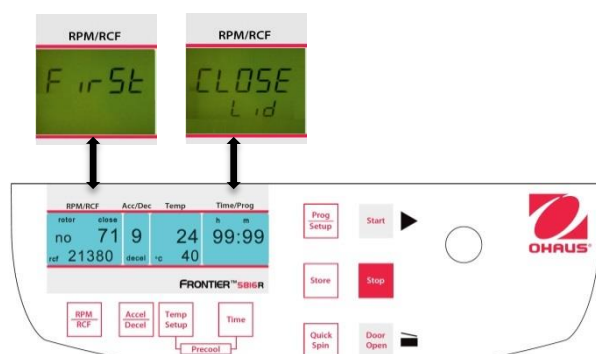
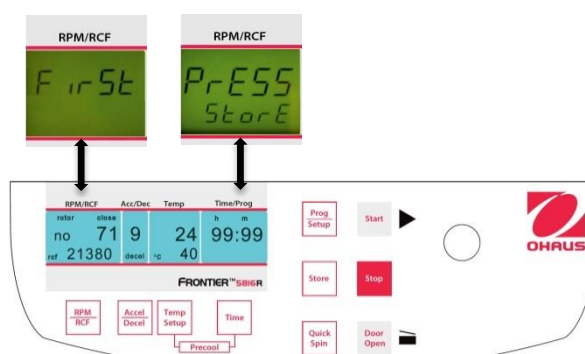

Figure. 23
Figure. 24
Close the lid of the centrifuge. Now proceed as described previously to set all important run parameters. If the lid isn't closed when storing the program, in the display **"RPM/RCF"** (A-1), the words **"FirSt"** and **"CLOSE Lid"** (See figure 23) flashes alternately. If you want to start the run without storing the program, in the display **"RPM/RCF"** (A-1), the words **"First"** and **"PrESS StoreE"** (See figure 24) flashes alternately.
For adaption of data press the key **"Store"** (12) (refer to figures 23 and 24) for approx. 1 second. If the program is stored correctly, the word **"StoreE"** appears in the display **"RPM/RCF"** (A-1). As a result, the word **"programm"** (M10) disappears.